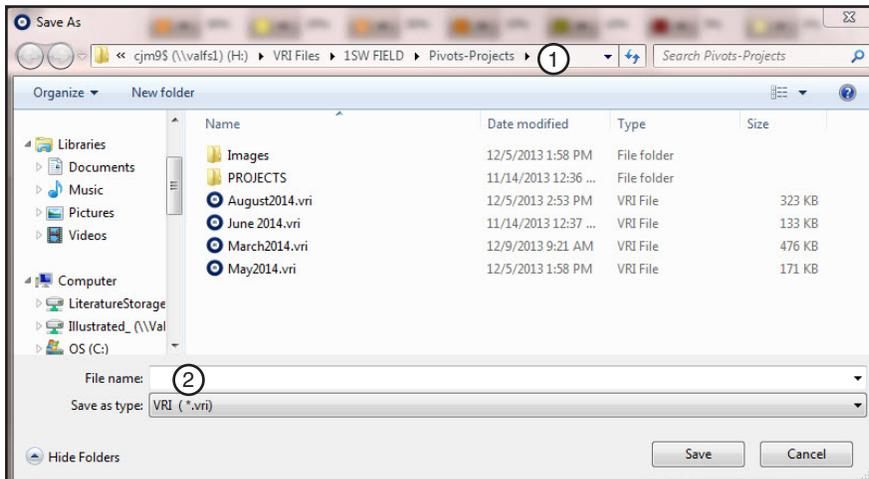

Figure 28-2 1. Folder Location 2. File Name Field
2. Locate the folder in which you want to save the new project, enter the new project name in the **File name** field, and click **Save**. (Refer to Figure 28-2.)